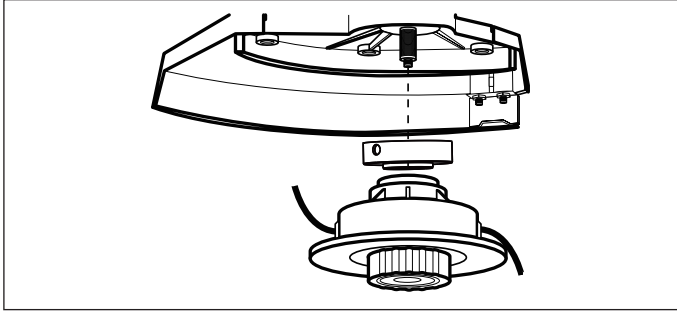

Fig. 21a
5. Insert the Hex key 4 mm (F3) into the hole to lock the spindle.
6. Remove the trimmer head (B10) by unscrewing clockwise. (See Fig. 21a)